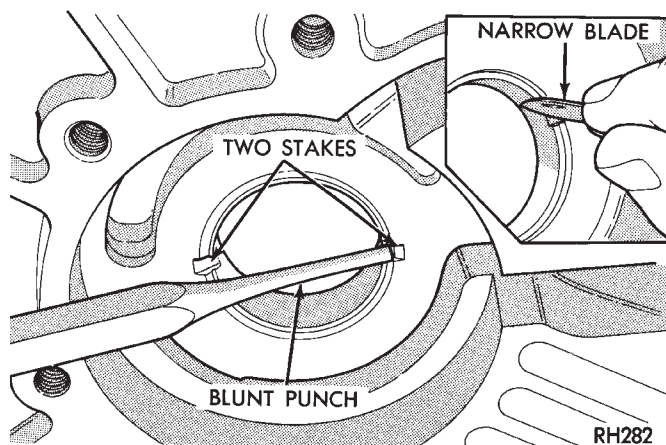

Fig. 50 Staking Oil Pump Bushing
(3) Stake new pump bushing in two places with blunt punch (Fig. 50). Remove burrs from stake points with knife blade afterward.